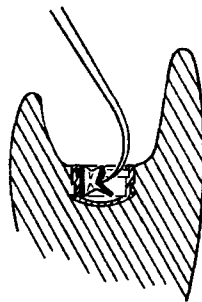

Fig. 4
3. Using a blade or explorer-like instrument, collapse the remaining plastic ring into the space created by removal of the center post and lift it out. (Fig. 4)